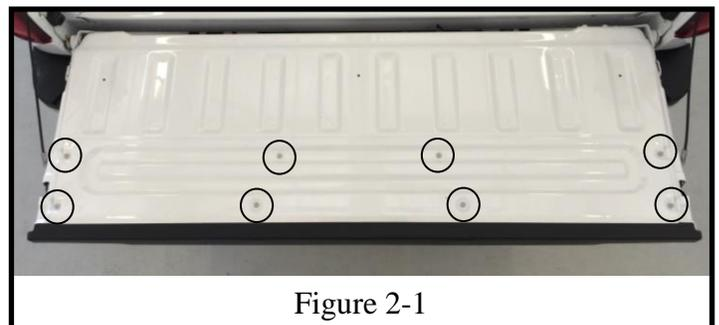

Figure 2-1
1. Lower tailgate and remove the eight T-30 screws holding the cover marked in figure 2.1